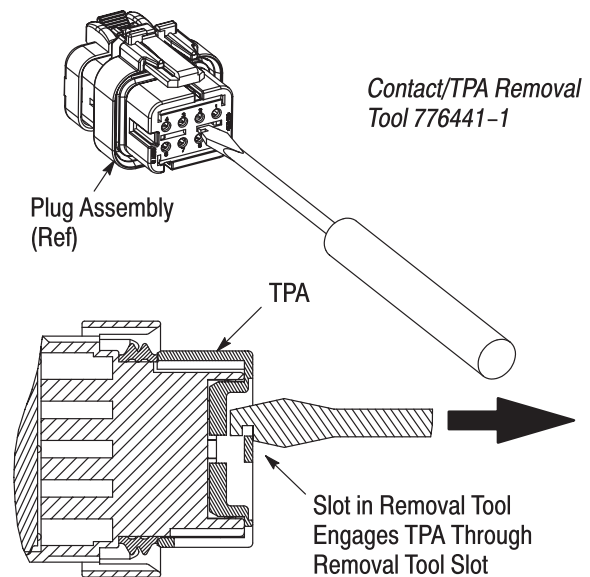

Figure 10
3. Orient the contact/TPA removal tool (or equivalently modified 3.18 mm [.125 in.] screwdriver) so that the slot in the tool is facing the centerline of the TPA. Insert the removal tool into the extraction slot in the plug or cap assembly TPA as shown in Figure 10.